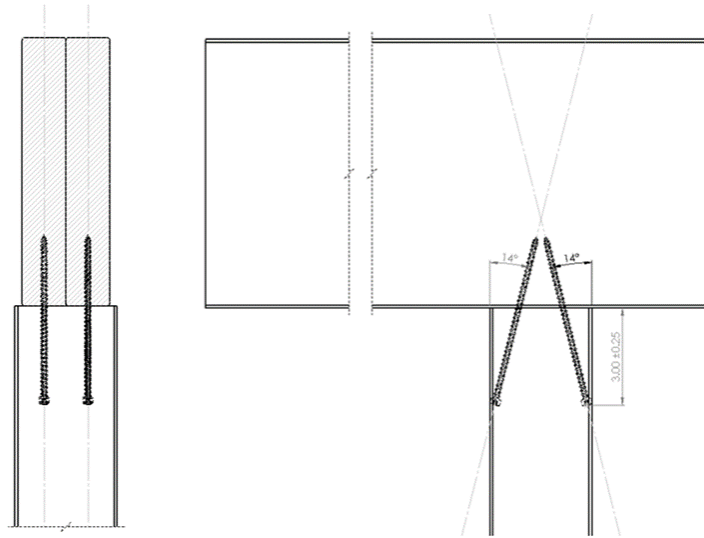

Figure 14. Post to 2-ply Beam - Deck Connection
- 2.10.1.1 Fasteners shall be installed at an upward angle from the vertical of 4° to 14° (Figure 14), and shall penetrate the beam within 1/4" of the centerline. Install fasteners away from the end of the joist.